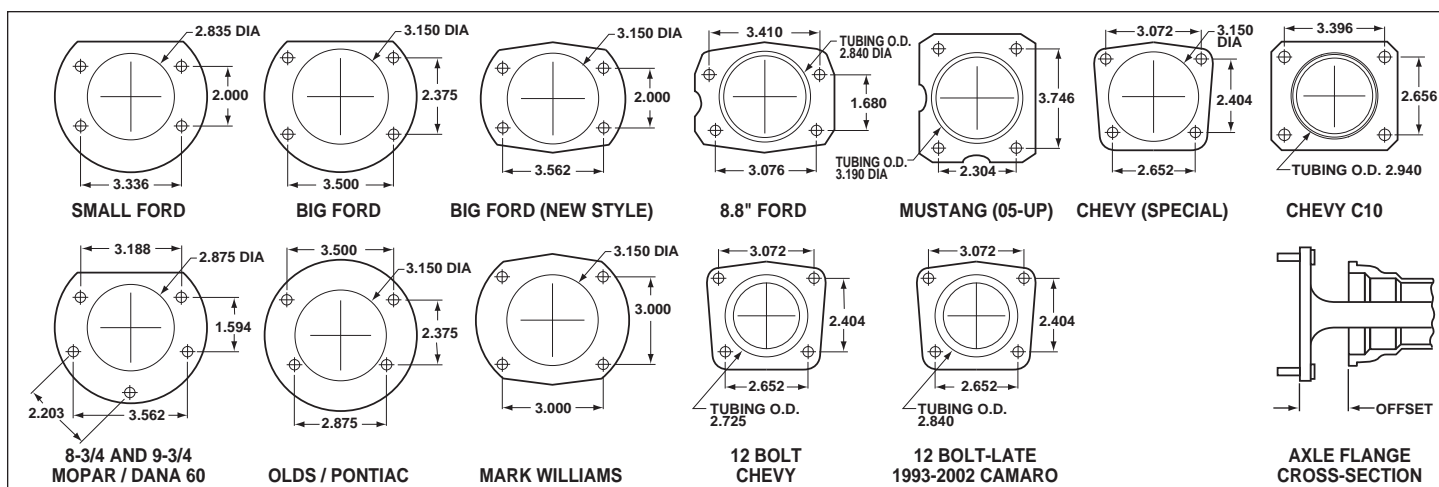

Figure 7. Rear Housing Flange Chart and Axle Flange / Offset Cross-Section
- Make sure this is the correct kit to fit the axle housing flange, not necessarily the rear end make. Many times after market manufacturers put a different make of axle housing flange on the stock rear end housing (see Figure 7). Example; Big Ford rear ends with Olds-Pontiac flanges, therefore, an Olds-Pontiac rear disc brake kit would be the correct kit to order.
- Dimension from wheel side of axle flange to wheel side of axle housing flange (see Figure 7, lower right hand corner). This dimension is critical to ensure proper alignment of the rotor to the caliper, and should match offset given in the kit description.